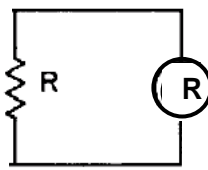

Figure 1-3. Using a multimeter (shown by the circle with a R) to measure *resistance*.
* – As always, draw the schematic. For this measurement, see Fig. 1-3.